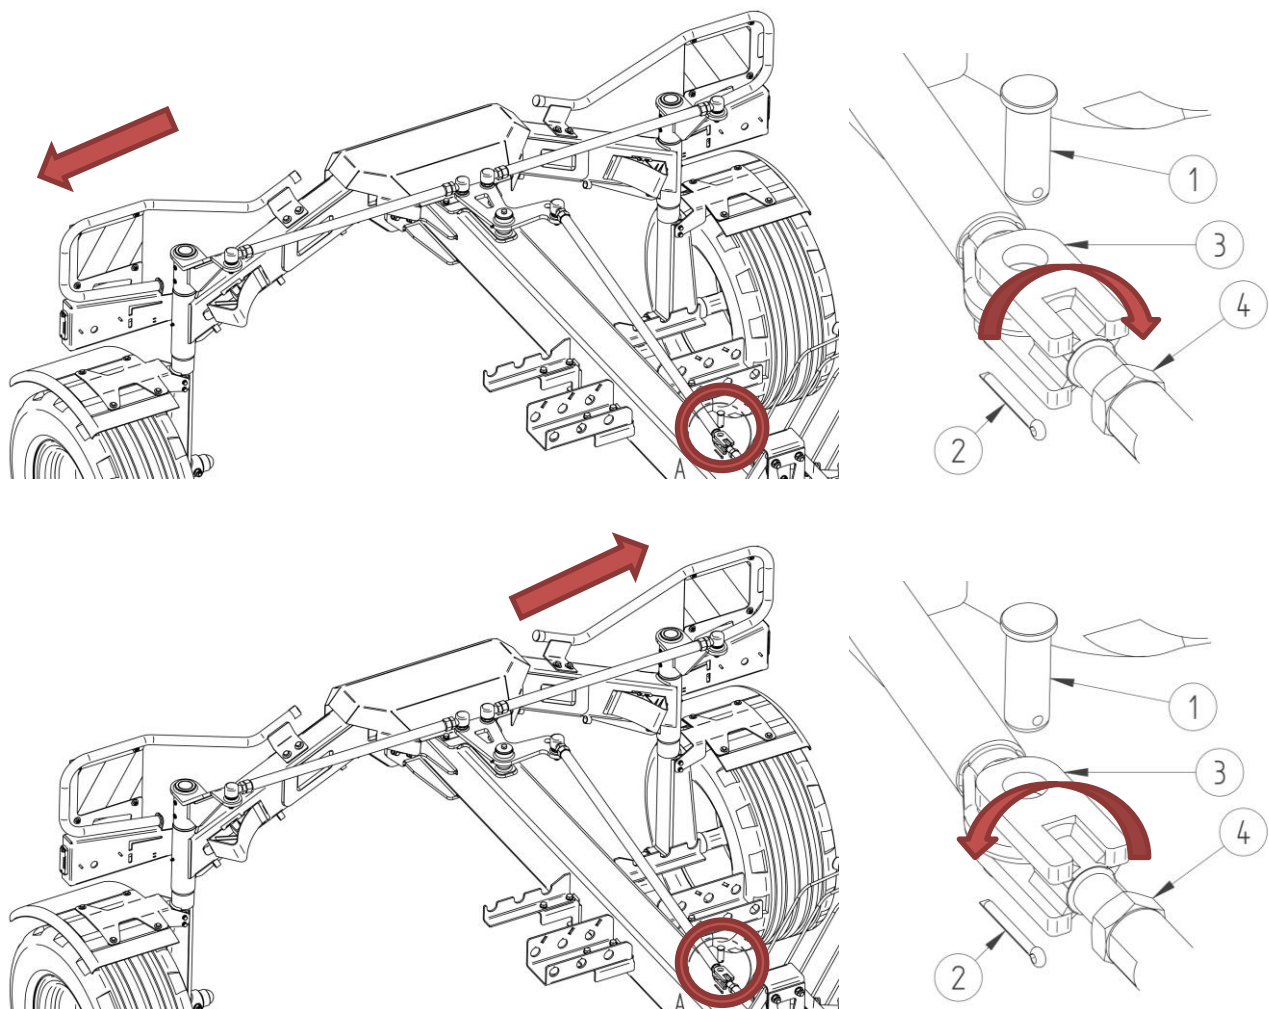

Figure 15. Track adjustment
First, remove the pin (1) secured with a split pin (2), as shown in the diagram below. The next step is to loosen the M20 lock nut (4). If the machine should be driven further to the right when looking in the direction of travel, turn the forks clockwise. If it should ride closer to the left-hand side when facing forwards, the fork should be turned anti-clockwise. Once in position, tighten the M20 nut (4). The orientation of the view and the directions are shown in Figure 15.